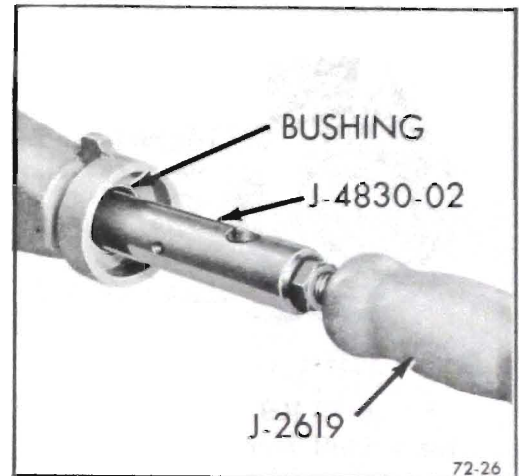

Figure 72-415 - Removing Case Extension Bushing
2. Using J-2619 Slide Hammer and J-4830-02 Puller, remove case extension bushing. See Figure 72-415.